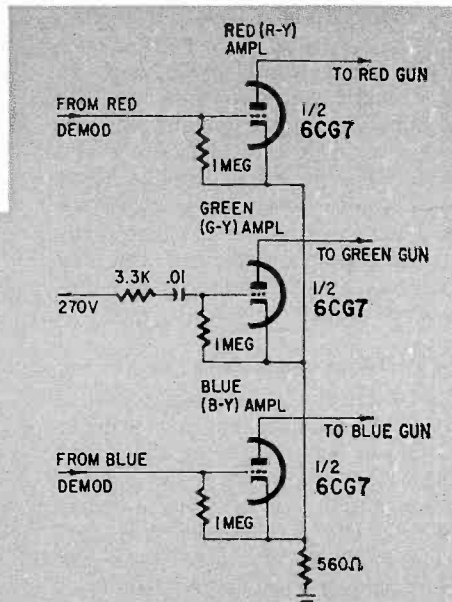

Fig. 6—Color amplifiers. Green signal is "made right in your own home" by subtracting red-blue signal from total color signal.
**6. Color Amplifiers** (Fig. 6). Three simple triode amplifier stages. But, you still want to know, where does the green come from? We're putting our red and blue signals onto the grids of the top and bottom tubes. The cathodes are all tied together. So, the cathode voltage on the green amplifier is a combination of the other two colors. Now, the whole color signal is red + blue + green, isn't it? So, what would we have left if we